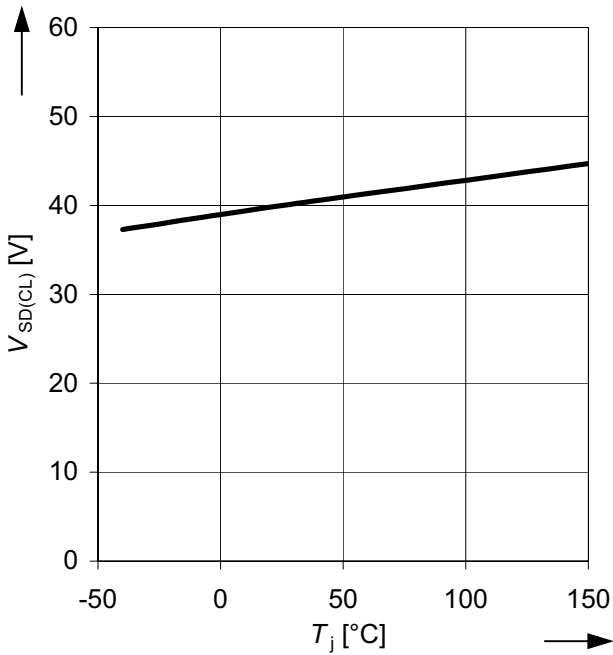

Figure 36 Typical output voltage drop limitation $V_{SD(CL)}$ as a function of the junction temperature T_j
4) See Figure 36 for typical temperature dependency.